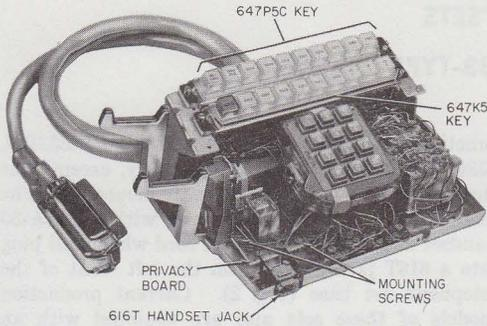

Fig. 2—2833BM Telephone Set Base
functionally equivalent to the 833BM, 2833BM, 833CM, and 2833CM sets, respectively, except that they have been adapted for wall mounting. The modular sets will all be equipped with a G15A-50 handset and H4DU-50 handset cord which will plug into a 616T jack mounted on the left front of the telephone set base (Fig. 2). Current production models of these sets also are equipped with an improved line switch and an automatic button restoral (ABR) feature. Some early production BM and CM sets were not so equipped.
2.02 The 833B (MD) or 833BM, DM and 2833B (MD) or 2833BM, DM telephone sets are equipped with a 647K5 key in the lower key position consisting of a hold button, six line buttons, and three intercom buttons. A 647P5C key is located in the upper key position consisting of a RECALL button, a Privacy Release (PRIV RLS) button, and eight line buttons. The privacy circuit board is factory installed and wired (Fig. 2).
(1) Mount privacy circuit board on the two standoffs located at the left front of the telephone set base (Fig. 2) using mounting screws furnished with the telephone set.
(2) Refer to Table C for connections.
(3) To test privacy circuit refer to 3.06.